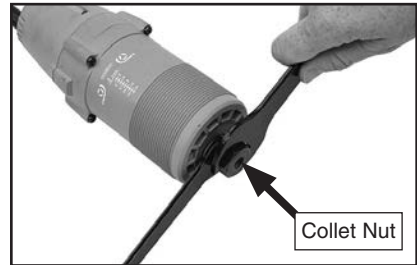

Figure 9. Loosening collet nut.
3. Place collet wrenches as shown in **Figure 9**, and loosen collet nut. Remove/install router bit.